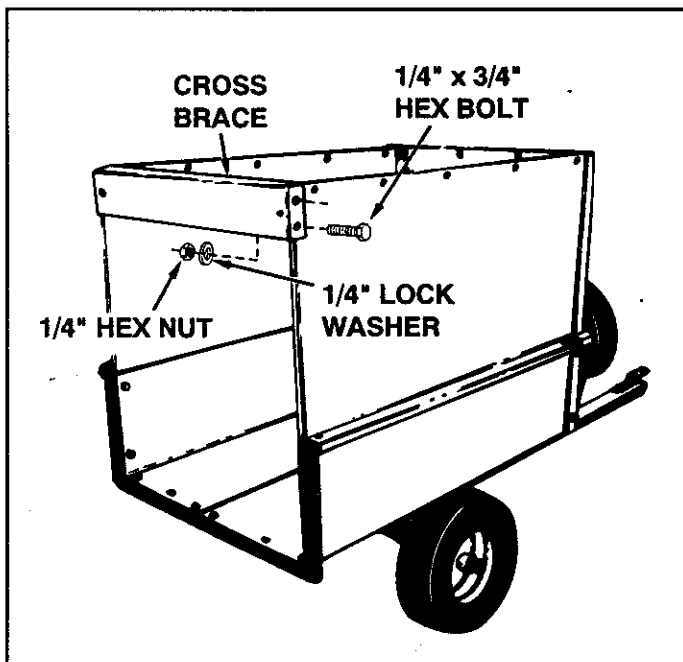

FIGURE 16
- Assemble the cross brace to the two top holes at the rear of each side panel using four 1/4" x 3/4" hex bolts, four 1/4" lock washers and four 1/4" hex nuts. See figure 16.